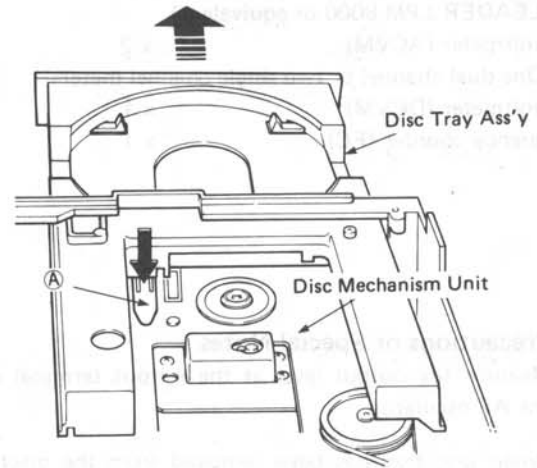

Fig. 3
Then pull off Disc Tray Ass'y by pressing the hook (A) in fig. 3. Now, the azimuth can be adjusted.